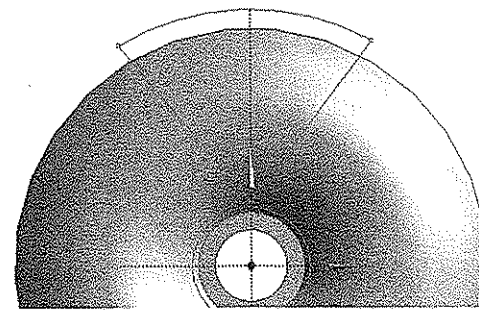

Figure 5-12 The lines created using the **Polyline** tool
5. Choose the **Polyline** tool from the **Draw** toolbox and draw the two line segments as shown in Figure 5-12.